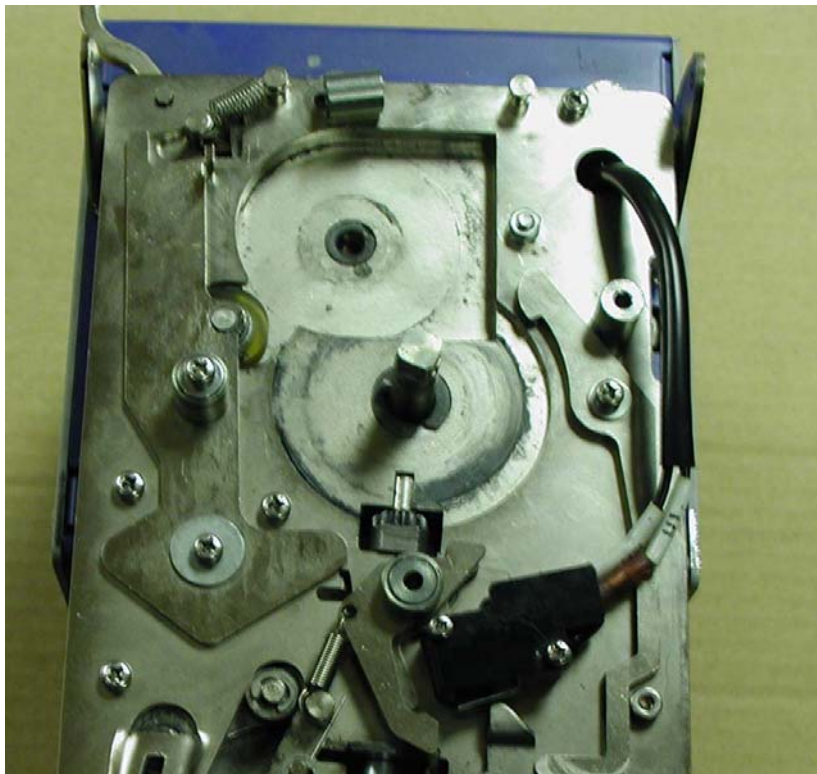

Figure 7
- 8) Lift and remove the Segment Gear and the Feed Roller together. As these 2 parts mesh together they must be removed together. See Figure 7 for view of machine once Segment Gear and Feed Roller are removed.